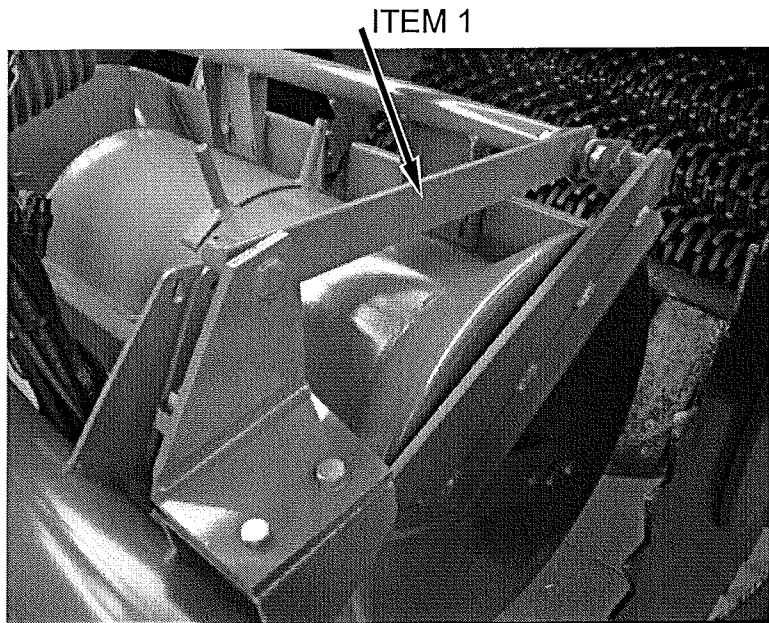

Fig 7.5
To stop the diabolo from bouncing as the machine is transported a strut is located between the diabolo frame and the main chassis to lock it in position (fig 7.5 item 1).